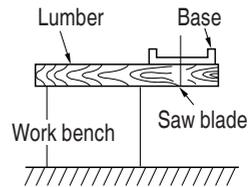

Fig. 18
6. Prepare a wooden work bench (Fig. 18)